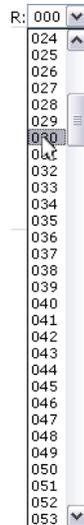

Figure 6-17 — Set Logo Recall slider
4. Watch the logo on the connected output device while you slowly drag the slider up and down (figure 6-17) to key out unwanted material, such as the background, from the logo.